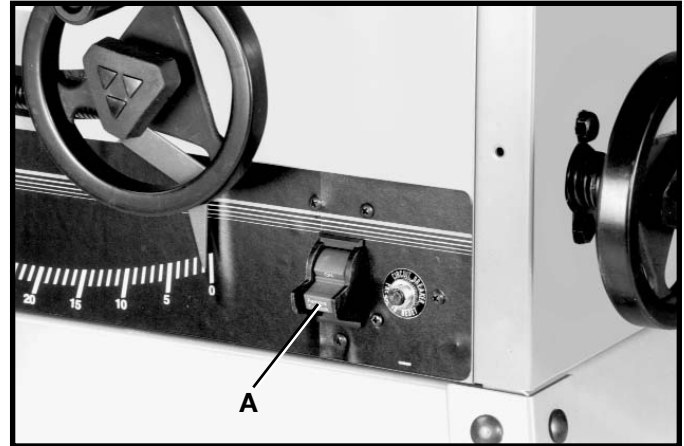

Fig. 33
The switch (A) is located on the front panel of the saw cabinet, as shown in Fig. 33. To turn the saw "ON" move the switch to the up position. To turn the saw "OFF" move the switch (A) to the down position.